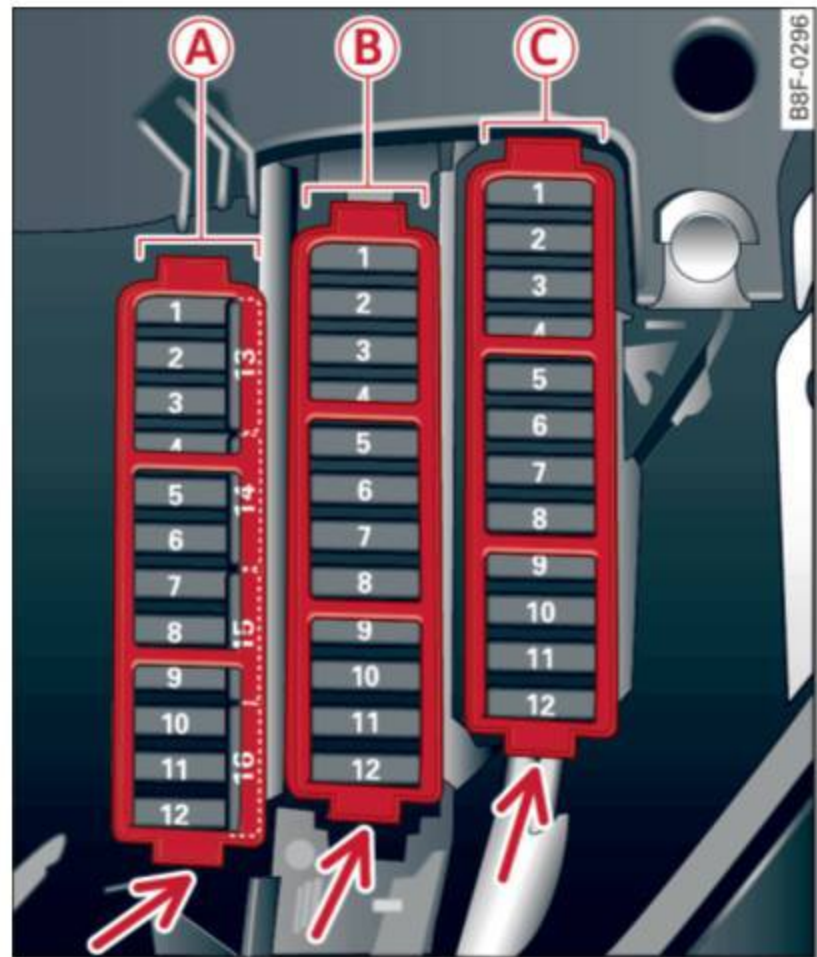

Fig. 208 Left cockpit: fuse panel with plastic clip
- ▶ To remove the purple plastic clip if necessary ¹⁾, hold onto it at the small side and pull it out of the fuse panel ⇒ *page 261, fig. 208*.